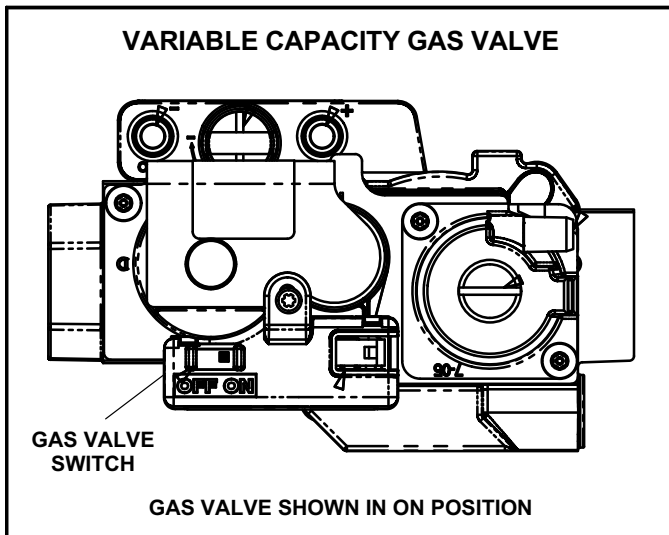

FIGURE 2
### Operating the Gas Valve (Figure 2)
- 6 - Move the gas valve switch to the **OFF** position. See figure 2.
- 8 - Move gas valve switch to **ON** position. See figure 2.